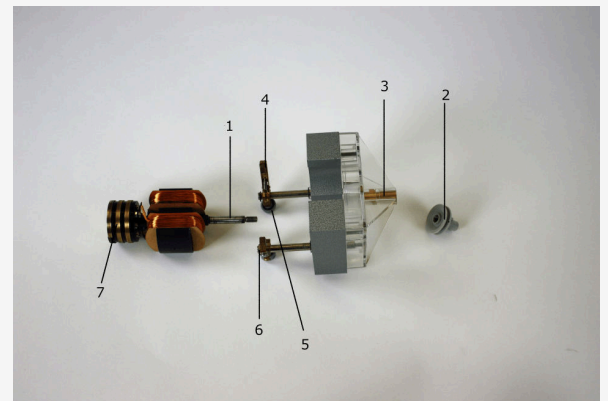

Fig. 1
- Assemble the motor attachment according to Fig. 1.